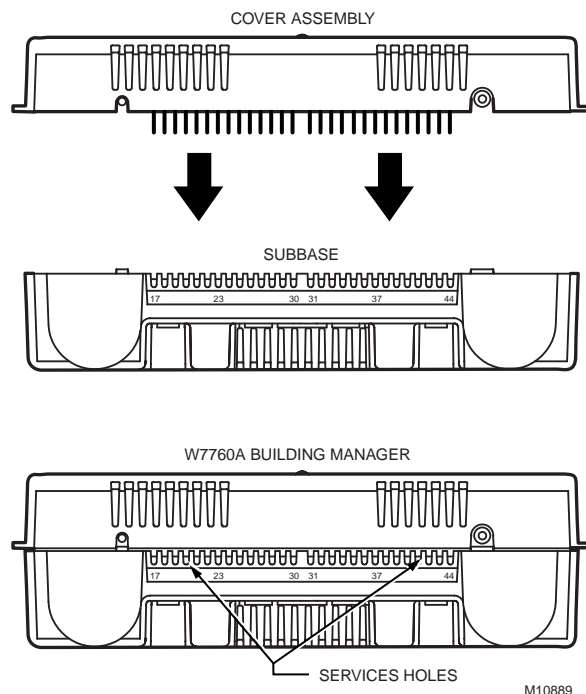

Fig. 13. Plug cover assembly into subbase.
- Plug the cover assembly into the subbase to activate the W7760A. See Fig. 13.